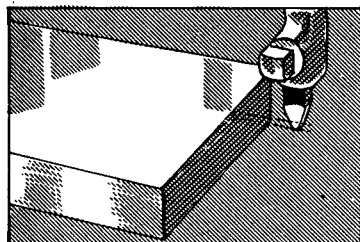

FIG. 482
1. Be certain that the work is moved to the left of the tool and that the tool is set to the desired depth (Fig. 482).